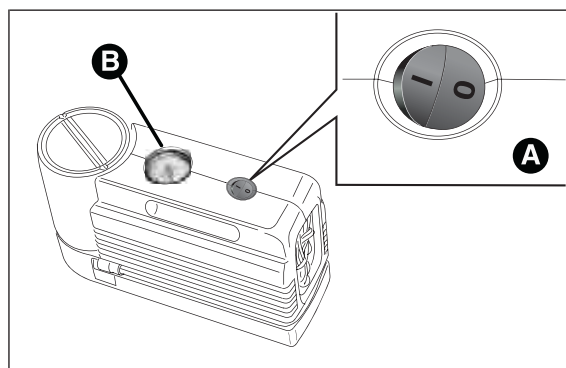
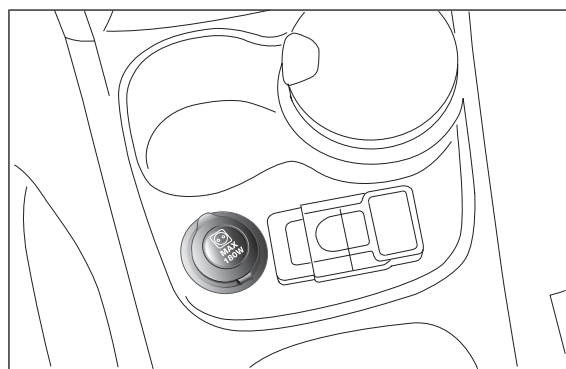

fig. 111
fig. 112
- ☐ make sure that the compressor switch A fig. 111 is in position 0 (off), start the engine, plug into the power socket in the central tunnel fig. 112 and operate the compressor turning switch A to position I (on). Inflate the tyre to the pressure specified in the "Inflation pressure" paragraph in the "Technical specifications" section. Check tyre pressure on gauge B fig. 111 with compressor